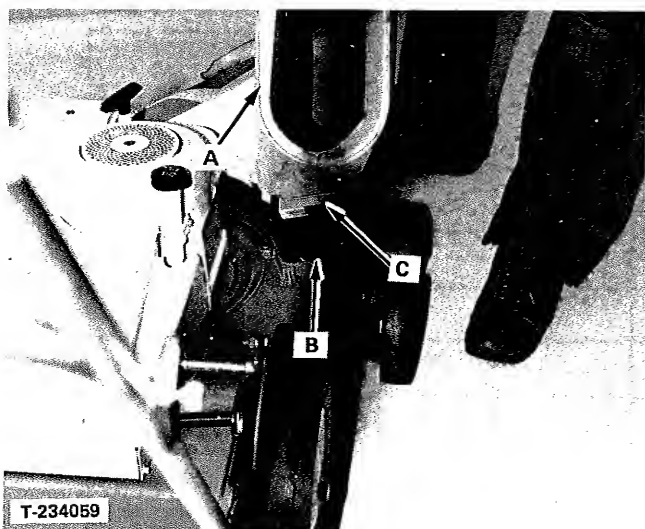
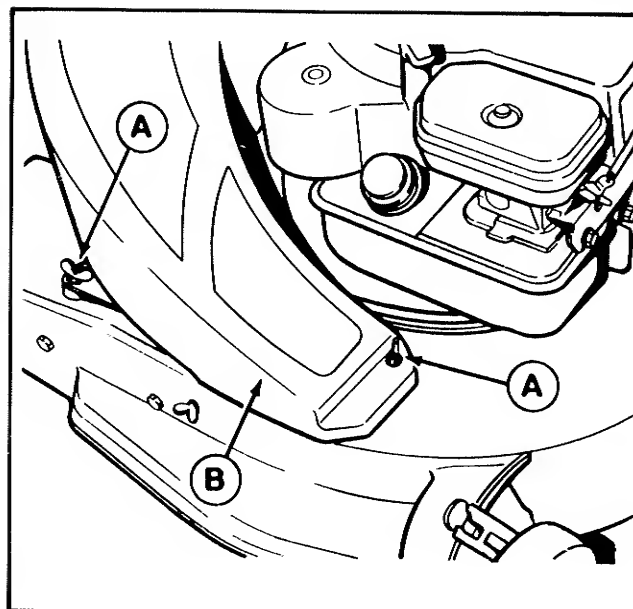

FIGURE 5 - GRASS CHUTE
FIGURE 6 - GRASS CHUTE INSTALLED
3. To install the grass chute (A, Figure 5) align the hook (B) with rear edge of housing and slide the chute onto the opening. Install the two wing screws (A, Figure 6) to secure the chute to the mower deck.